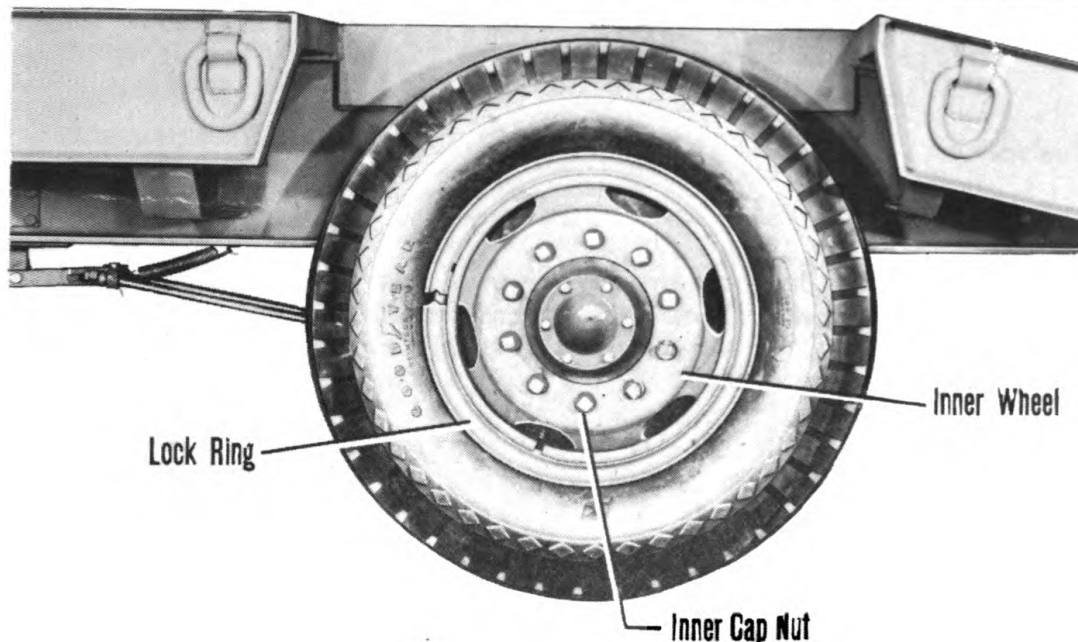

Figure 22—Rear Axle, with Outer Wheel Removed
6. Remove the ten inner stud nuts, releasing the inner wheel; slip off the wheel with its tire. (See figure 22.)